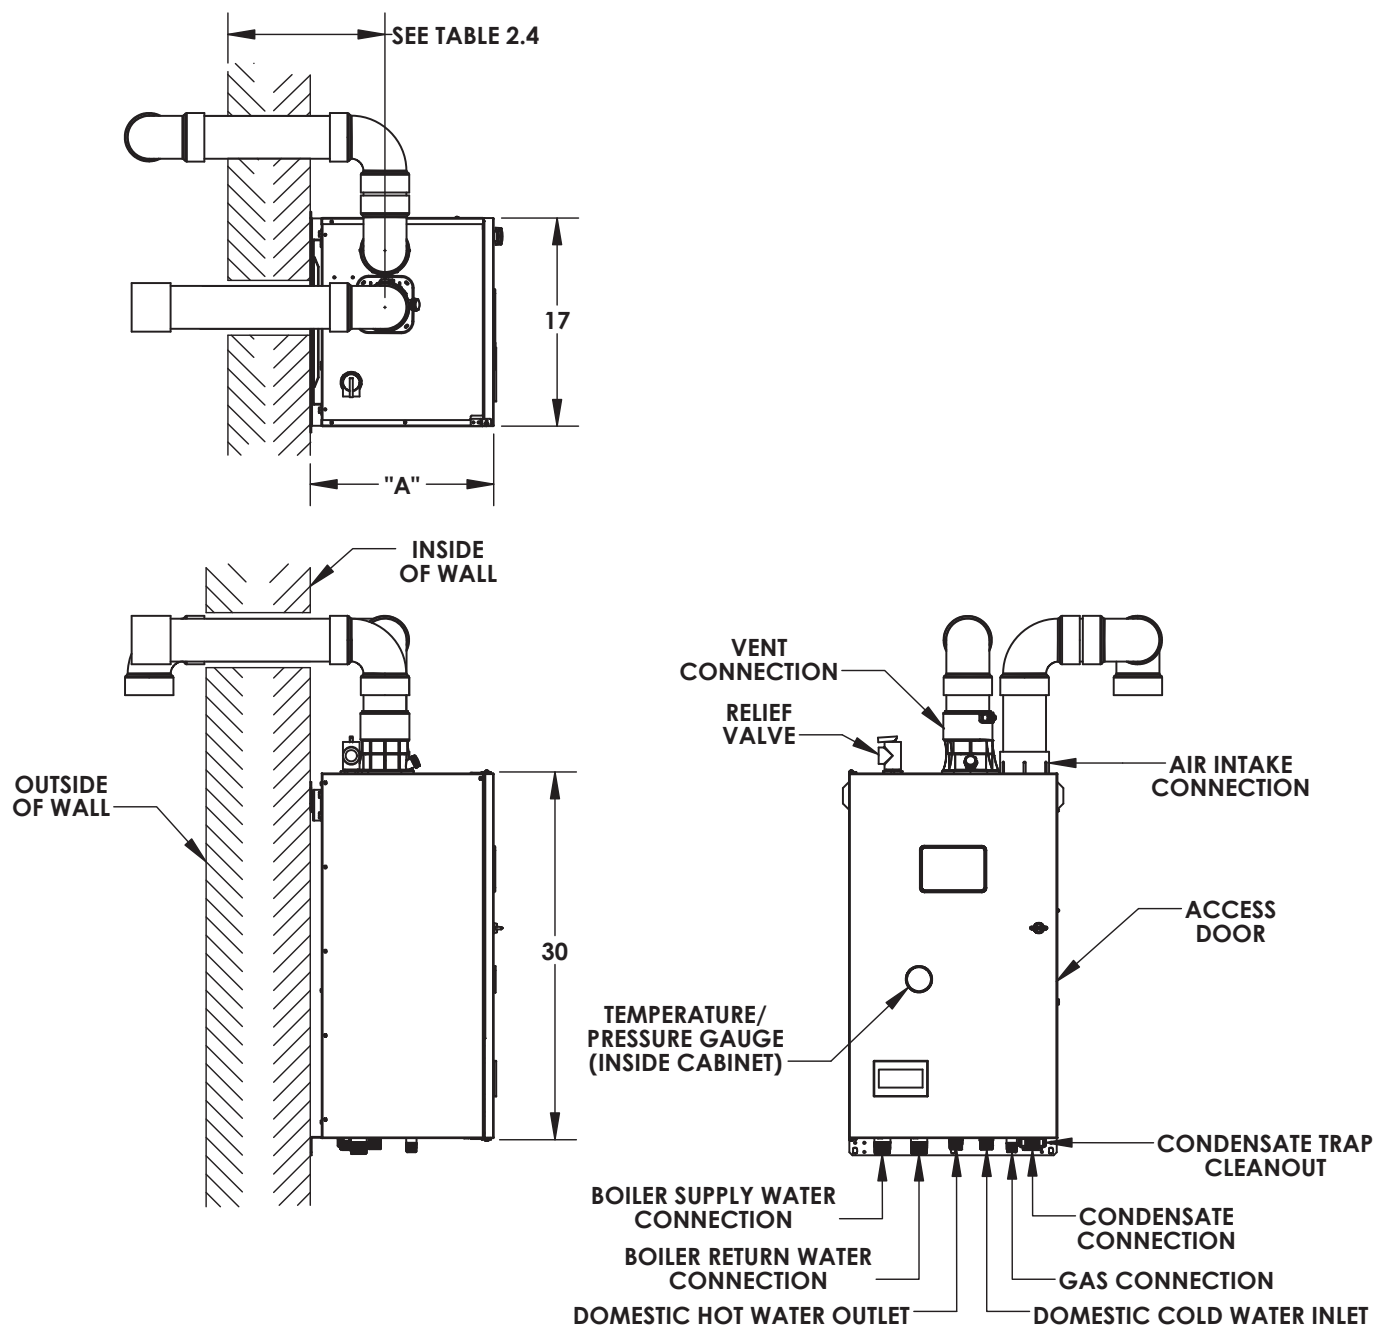

Figure 2.1: General Configuration
4. The relief valve must be installed in the location shown in Figure 2.1 and must be in the same space as the boiler.